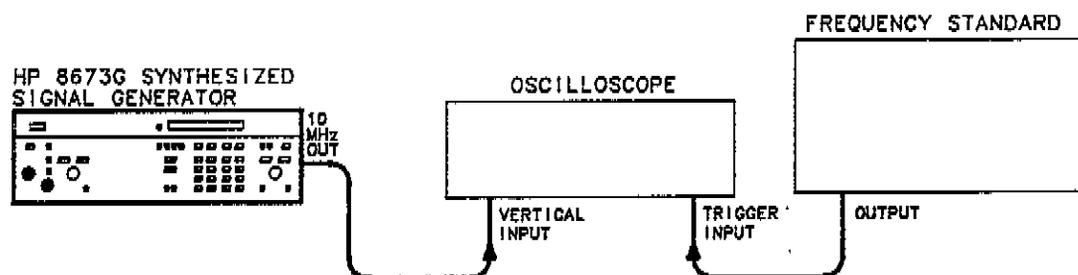

Figure 4-5. Internal Time Base Aging Rate Test Setup
1. Connect the equipment as shown in Figure 4-5.